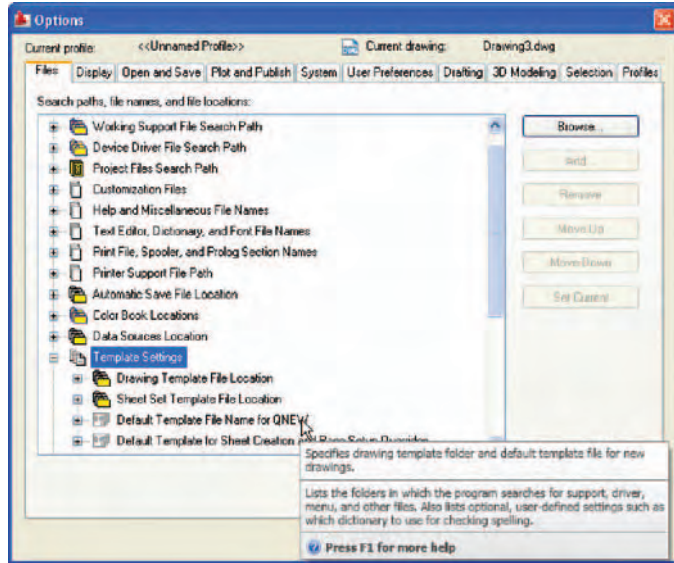

Fig. 15.4 Setting the default template setting in the **Options** dialog
7. In the **Options** dialog *click* the **Files** label and *click* **Default Template File Name** for QNEW (Fig. 15.4) followed by a *click* on the **Browse** button which brings up the **Select Template** dialog, from which the acadiso3d.dwt can be selected. Now when AutoCAD 2009 is opened from the desktop, the **acadiso3D.dwt** template will open.